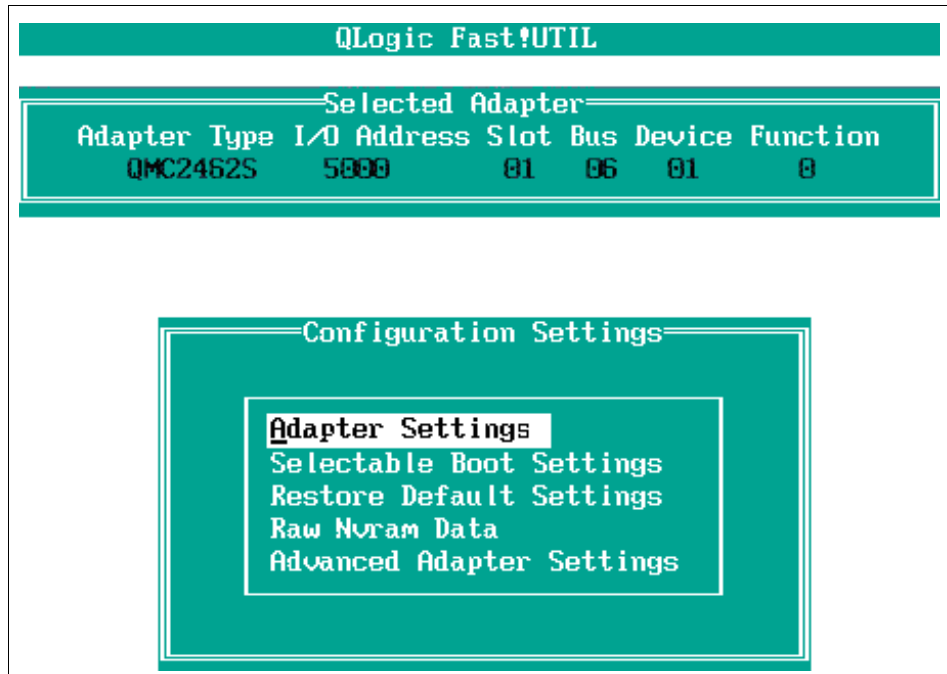

Figure 8-6 Configuration Settings window
3. Select **Configuration Settings**. You will see a window similar to Figure 8-6.